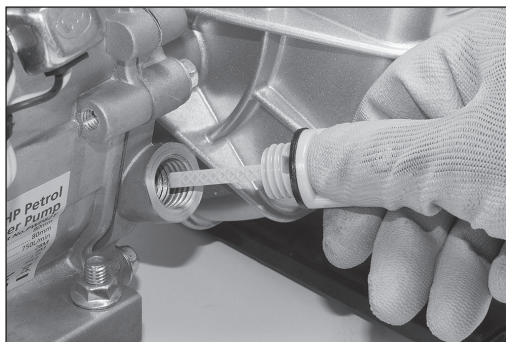

Fig. 6
6. If the oil is contaminated or has discoloured, ensure you change the oil; see section 10.1 (Fig. 6).